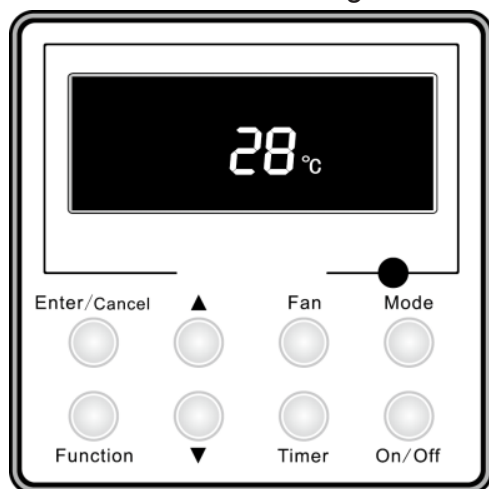

Fig.4 OFF State of the Unit
- ① The state shown in Fig.4 indicates the OFF state of the unit after energization.